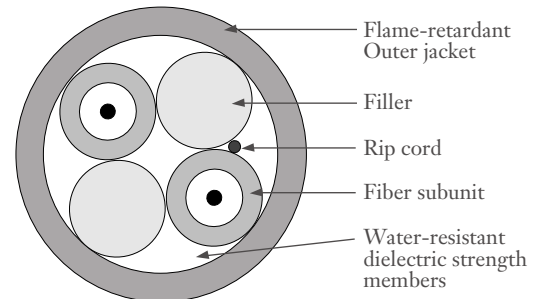

Figure 1
**1.2** Corning Cable Systems OFNR FREEDM® Fan-Out Cables utilize flame-retardant, 900 µm TBII® buffered fiber subunits surrounded by water-resistant, dielectric strength members and protected by a flexible, flame-retardant outer jacket (Figure 1). All-dielectric cable construction requires no grounding or bonding, and the cable is available in single-mode and multimode fiber versions. The cable's easily terminated 2.9 mm subunits enable field terminations